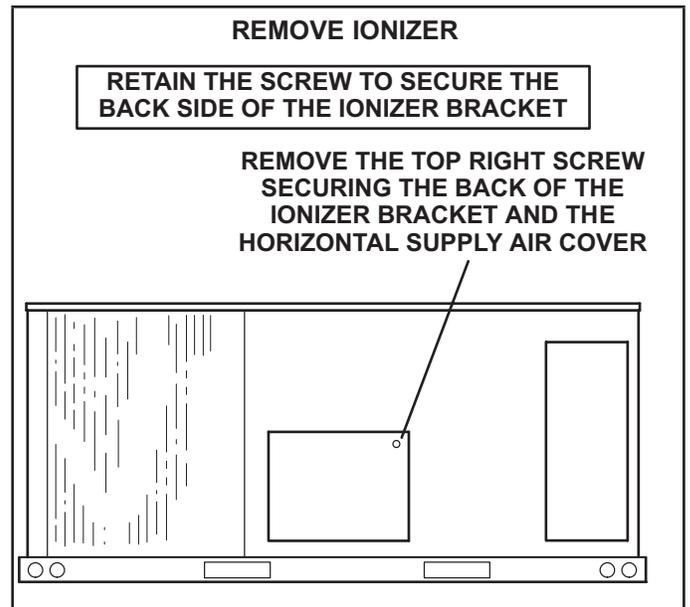

FIGURE 28
- 1 - On the back side of the unit, remove the screw securing the back of the ionizer bracket. See FIGURE 28. Retain the screw to secure the back side of the ionizer bracket.